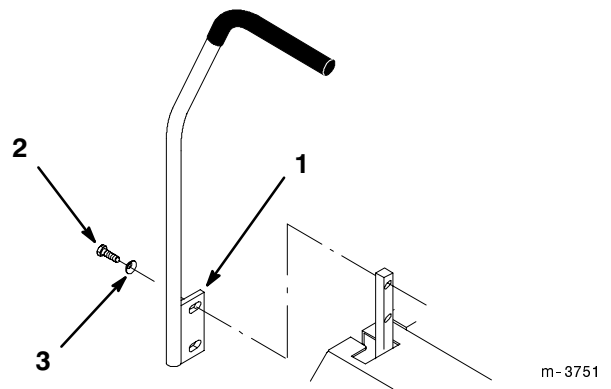

Figure 4
- Remove the (4) 3/8-16 x 1" (26 mm) bolts and (4) 3/8" spring washers which attach the motion control levers to the control arm shafts for shipping (Fig. 4).
- Place the levers (with the mounting plate toward the rear) on the outside of the control arm shaft and secure with (4) 3/8-16 x 1" (26 mm) bolts and (4) 3/8" spring washers (Fig. 4).
- Align the front/rear position of the levers, with each other, in the neutral position. Loosen hardware and adjustment by sliding/tilting the lever(s) forward or backward until properly aligned (Fig. 4).